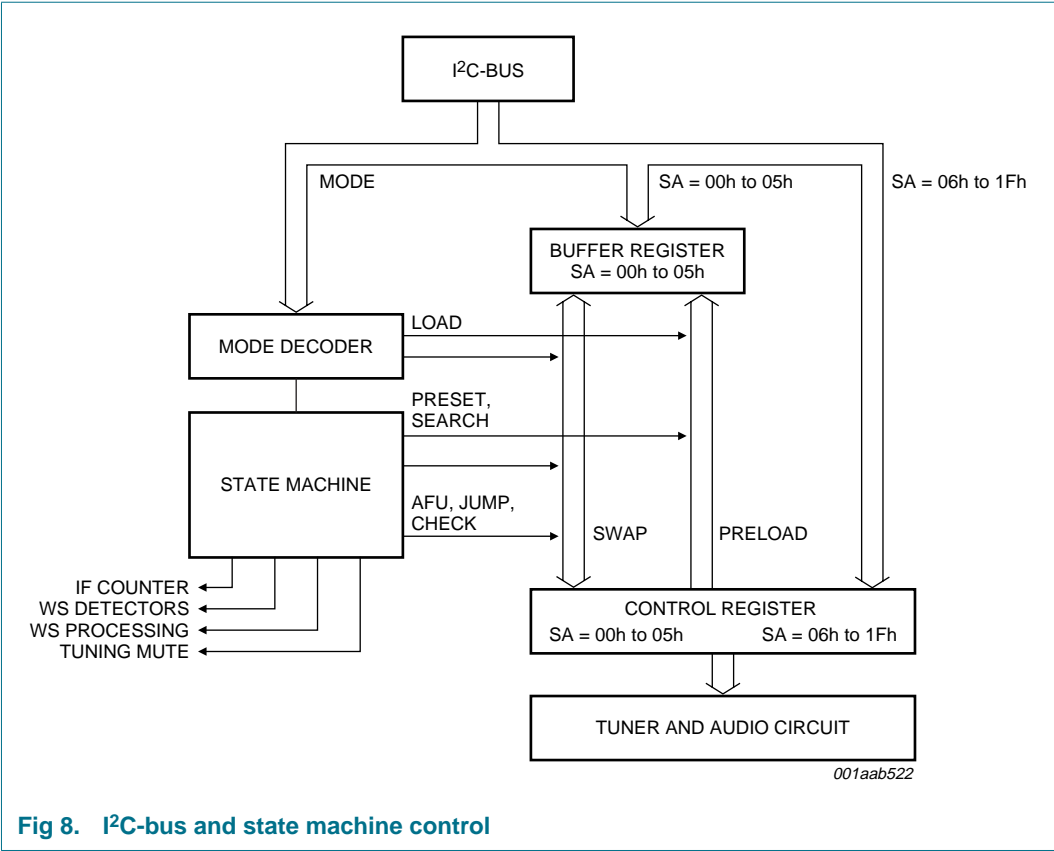

Fig 8. I2C-bus and state machine control
The device is controlled by the I2C-bus. After the Integrated Circuit (IC) address the MSA byte contains the control of the tuning action via the bits MODE[2:0] and subaddressing via bits SA[4:0] (see Figure 8).